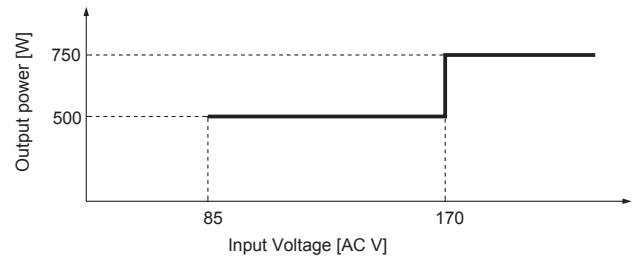

Fig.2.1 Input voltage derating curve (SNDPG750)
■ Fig.2.1 shows rated output for each input voltage section.